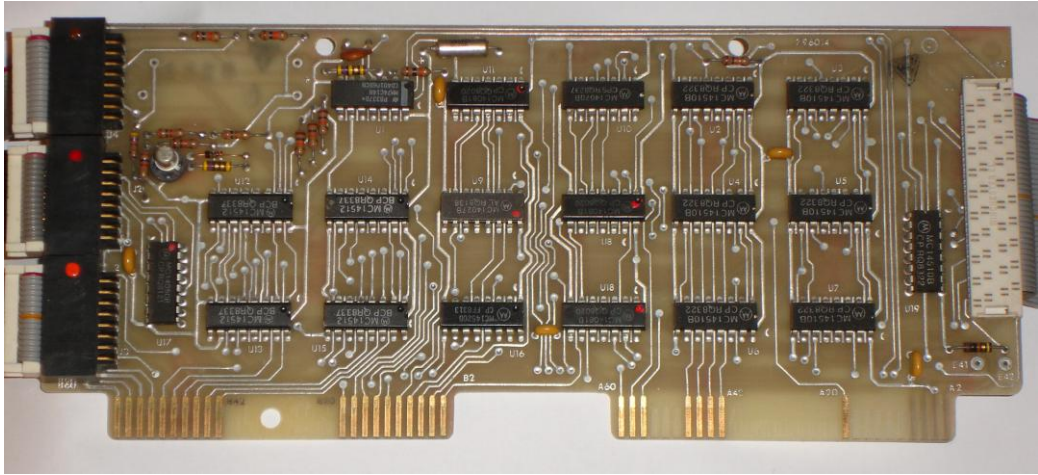

Figure 4a: A 796014 card that replaces the stock 791575-X board (front view).
- Locate the A6A1 Manual Tuning Up-Down Counter card (791575-X) on the A6 I/O mainboard, sockets XA1 (X7 and X8); unplug and remove it, replacing with the 796014 type (see Figures 4a-4b).